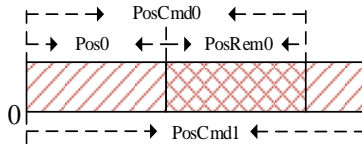

Fig. 12.15 Schematic diagram of absolute position command operation
③ The absolute position command takes the position value relative to the absolute zero (set by Pn296 and Pn297) as the reference point. As shown in Figure 12.15, the first segment position command is set to PosCmd0, and after running the pulse of Pos0, the second segment absolute position command PosCmd1 is inserted, then the total number of pulses run by the second segment position command, is PosCmd1-Pos0, and the final operation position value is PosCmd1.